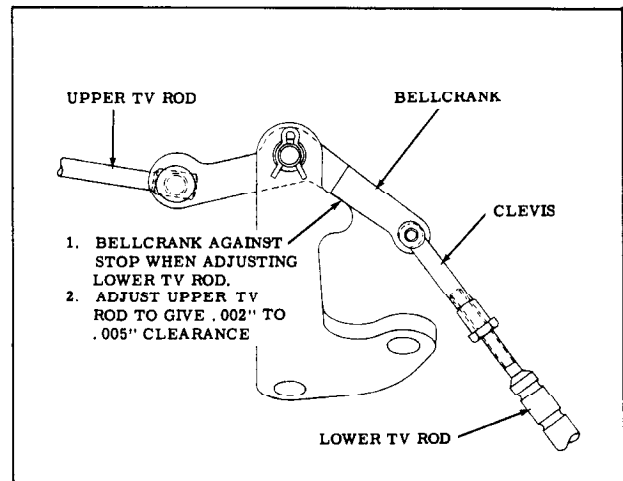

Fig. 3-136 Adjusting T.V. Rods
- With T.V. bellcrank and transmission lower T.V. rod "B" held against their rearward stops, adjust lower T.V. rod clevis so that the pin will enter freely into holes in clevis and T.V. bellcrank. (Fig. 3-136)
.002" to .005" off its stop with the throttle valves closed. (Fig. 3-136) Do not apply pressure on linkage while making this adjustment.